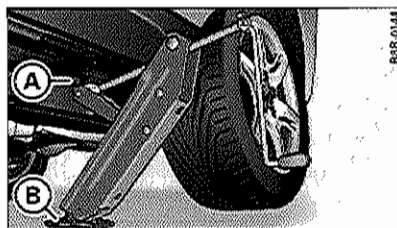

Fig. 232 Close-up: proper positioning of jack
- Align the jack so the claw **A** grips the rib on the rocker panel and the flexible base plate **B** is flat on the ground ⇒ page 305, fig. 232.